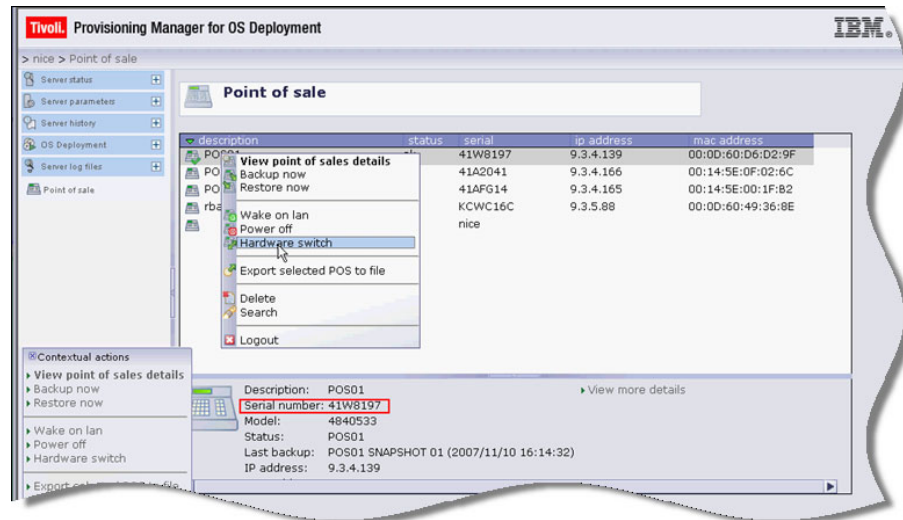

Figure 5-30 Selecting the Hardware switch function
2. Right-click the the entry for POS01 in the POS terminal list, and select “Hardware Switch” from the context menu (Figure 5-30).